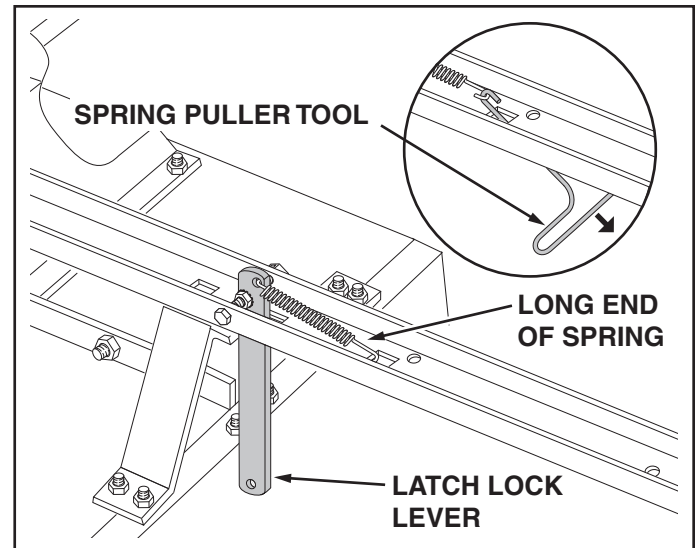

FIGURE 2
4. Hook the **short** end of the spring into the hole in the latch lock lever. Use the spring puller tool to hook the **long** end of the spring into the square hole in the tongue. The spring puller tool can be stored when finished. See figure 2.